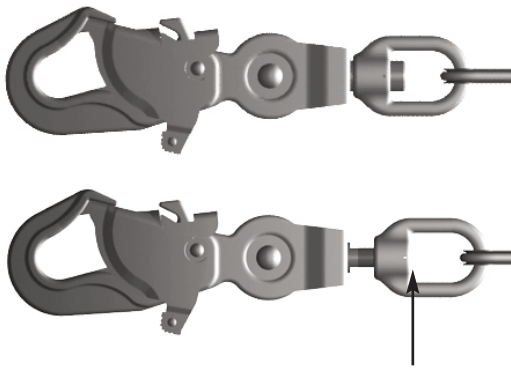
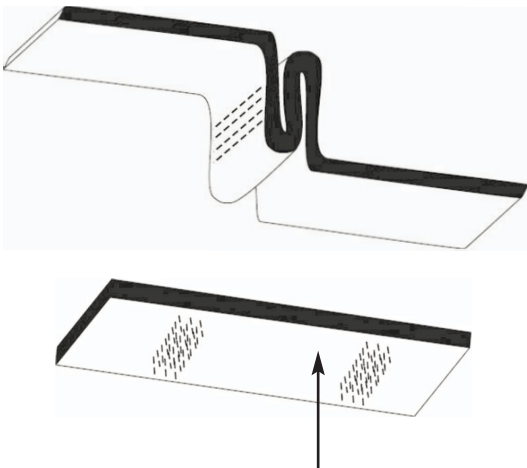

Figure 3. Deployed Load Indicator
Figure 4. Deployed Load Indicator
- 1) Prior to each use, the worker must inspect the Rigid Lifelines Self-Retracting Lanyard for any physical damage, wear, corrosion, or malfunctioning parts. Verify that the load indicator is not visible by looking to see if the red slide bearing under the swivel eye on the anchor point or snaphook is exposed (**Fig. 3 & 5**). Once the load indicator has been deployed, the SRL must be returned to a Rigid Lifelines approved repair facility for evaluation and recertification. Prior to each use, the worker must inspect the load indicator webbing on SRL's with web strapping. Remove from service if stitching is broken and/or the "Remove From Service" label is visible (**Fig. 4**).